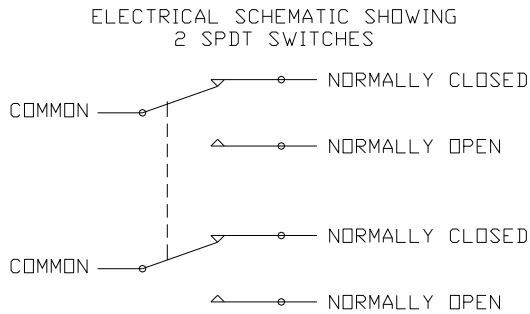

Figure 1: SPDT 2-Switch Schematic
3. After mounting the unit, the cover should be removed to adjust the cam on the shaft to give micro-switch actuation at the desired point. Both the paddle and the counterweight may have to be loosened, rotated and re-tightened on the shaft to achieve proper actuation. Refer to figure 1 and 3 through 6.
6. Field wiring must meet or exceed the requirements of the National Electrical Code and any other agency or authority having jurisdiction over the installation. Conduit fittings must meet applicable CSA and UL standards. Refer to figures 1 through 5 for wiring information.